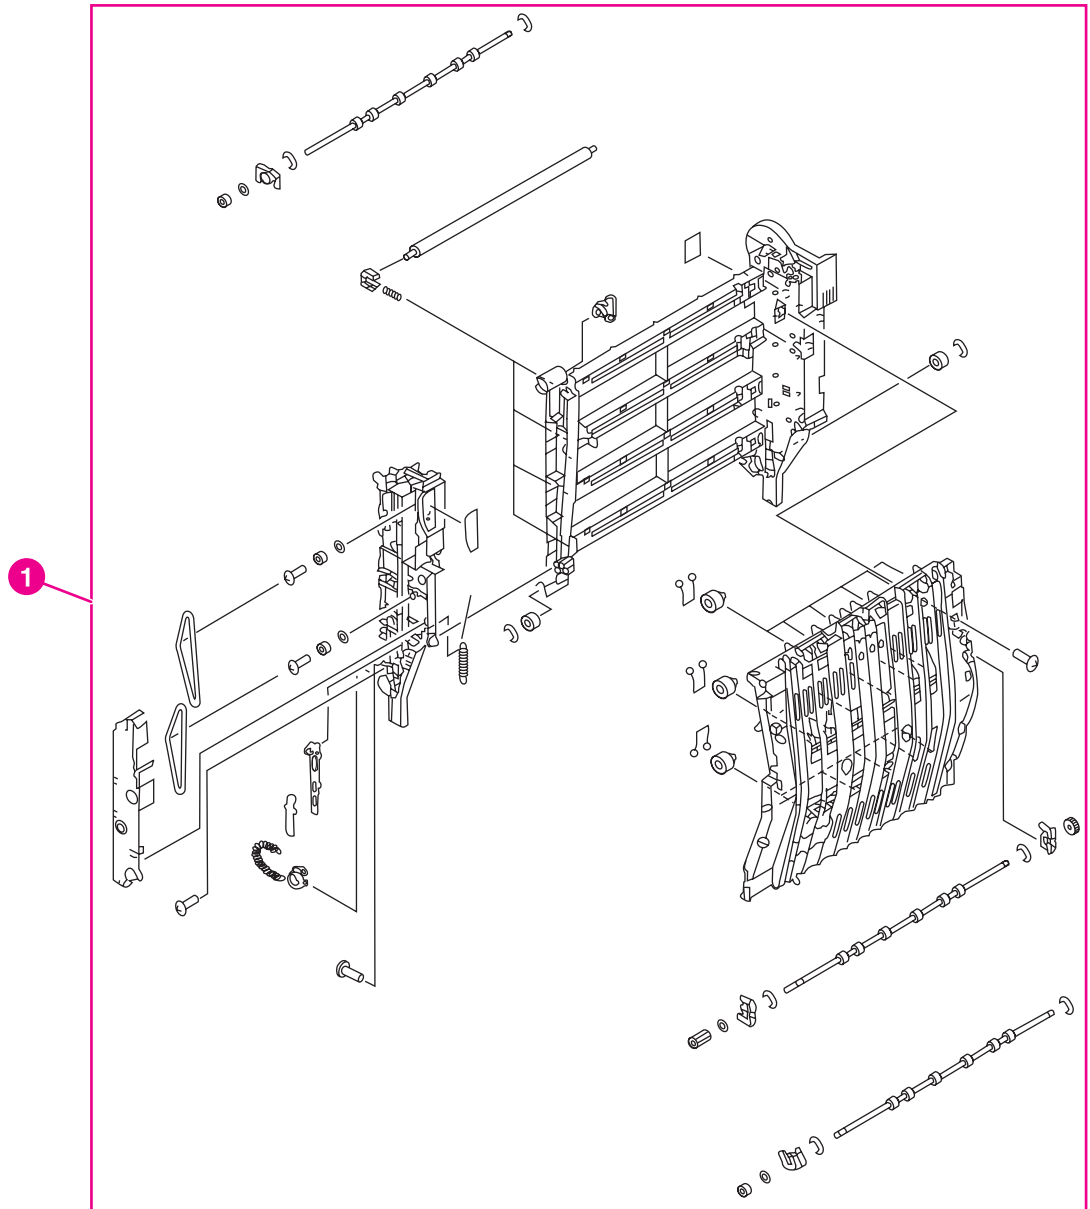

Figure 8-22. ETB assembly (1 of 2)
Table 8-21. ETB assembly lists parts shown in Figure 8-22. ETB assembly \(1 of 2\) and Figure 8-23. ETB assembly \(2 of 2\). If you order a replacement ETB (item 1), you will receive all parts shown in both figures.